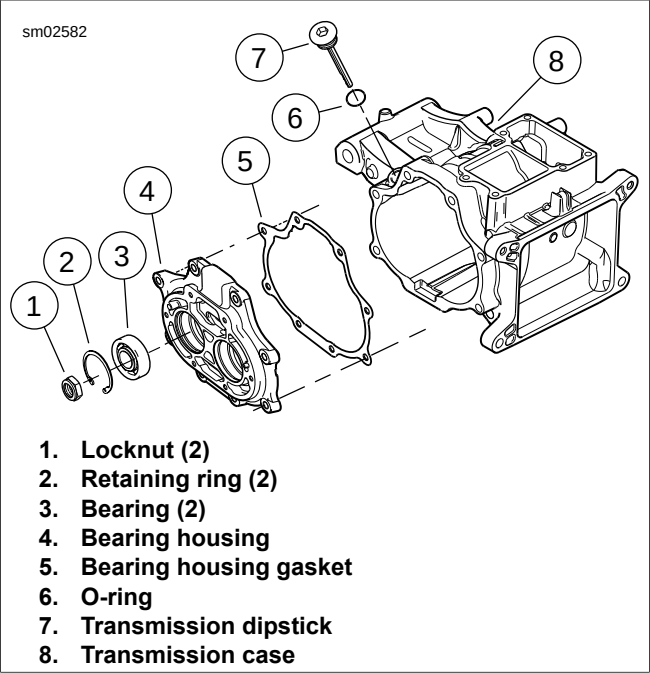

Figure 6-24. Bearing Housing Bearings
1. See Figure 6-24. Remove the retaining rings (1).
- See Figure 6-24. Install beveled retaining ring (1) with the flat side against the bearing.